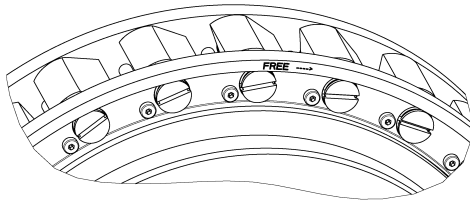

Fig. 14: Sprags in "service"
- Place the cage (8) on the inner race (2) and fasten axially with locking rings (4).
- Secure the sprags of the one-way clutch in lift-off position with an assembly aid (O-ring / cable connector) (see figures 14 and 15).